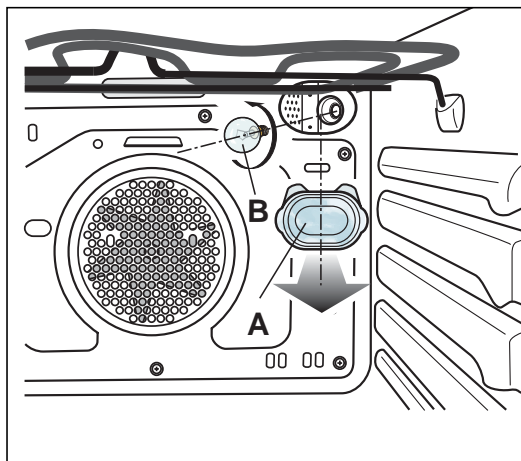

Fig.34
- Remove the protective cover (Fig. 34);